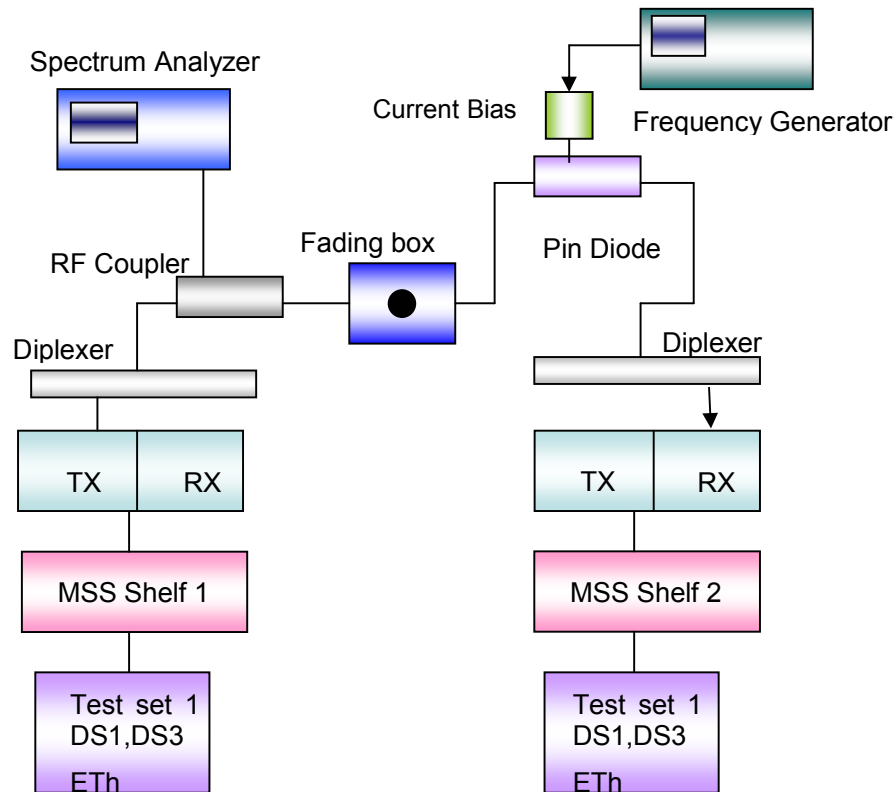

Figure 22 ATPC Setup
- Connect as shown in figure 22